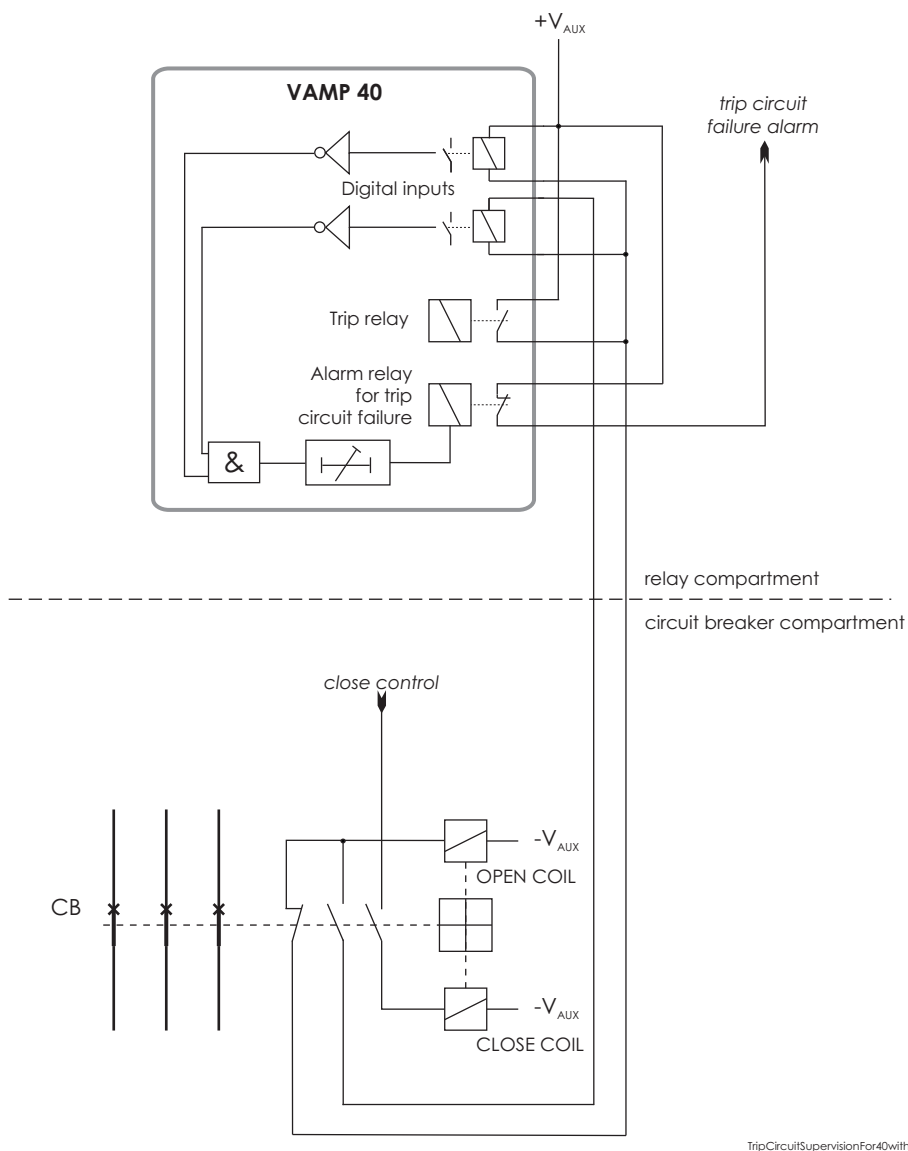

Figure 7.3.2-1. Trip circuit supervision with two digital inputs.
- The first digital input is connected parallel with the trip contacts (Figure 7.3.2-1)
- Both inputs are configured as normal closed (NC).